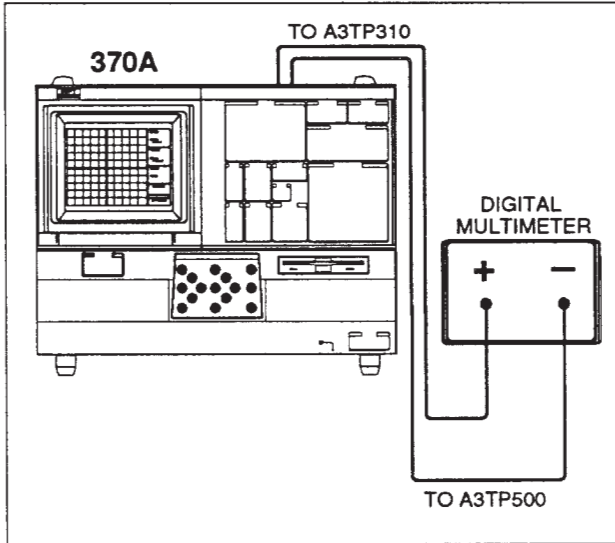

Figure 4-4. Examining and Adjusting for Step Generator Offset.
- f. Connect the Digital Multimeter between the TP310 (SG) and the TP 500(A GND) on the A3 A/D board as shown in Figure 4-4.